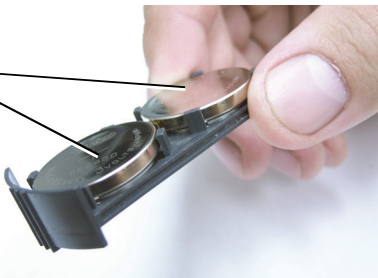

Figure 38 - Changing the Battery
- 3) The Battery tray contains two CR2450 style batteries, Mahr Inc. Part number EBY-1018. Remove the two expired batteries and replace with new ones with the large diameters (+ Positive) facing **away** from the tray. Snap into place (Figure 38).